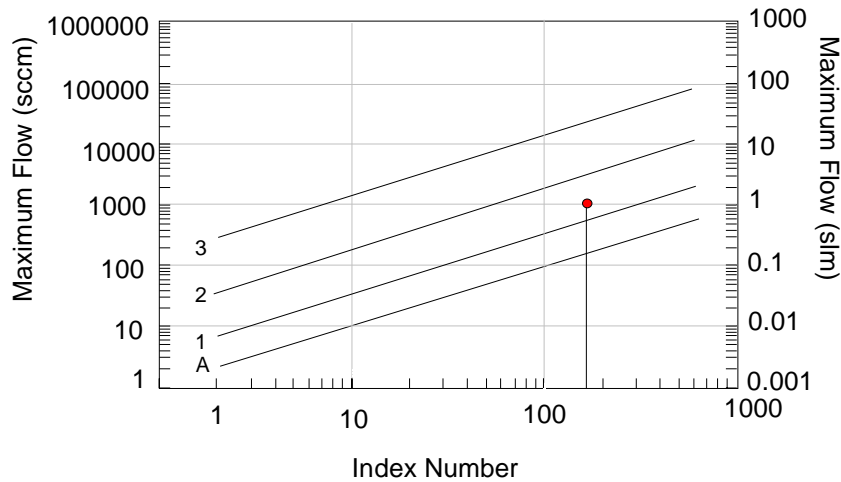

Figure 15: Flow Range Selection
The valves are not calibrated to match the valve orifice selection graph in Figure 15, page 57. The graph displays *typical* valve behavior.
- Use the index number and your maximum flow rate, to determine the orifice size from Figure 15.
3. Use the index number and the maximum flow rate to determine the orifice number from Figure 15, page 57.